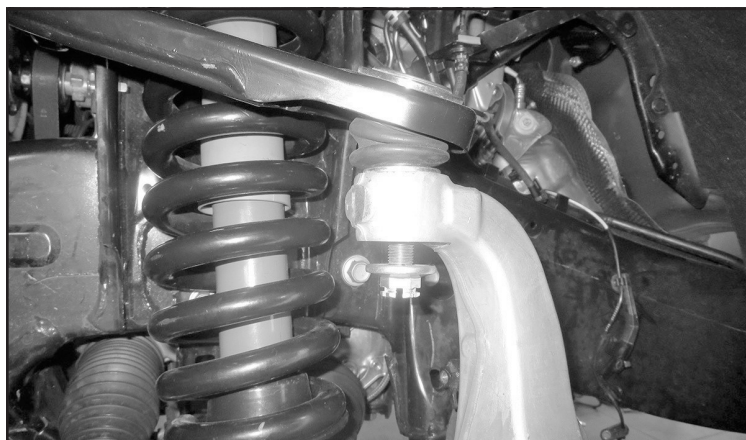

FIGURE 6 - STEP 5
5. Remove the cotter pin from the tie rod end ball joint nut. Loosen the nut and using a hammer strike the knuckle ball joint housing to dislodge the upper control arm from the knuckle. Remove the ABS line from the upper control arm. **SEE FIGURE 6**